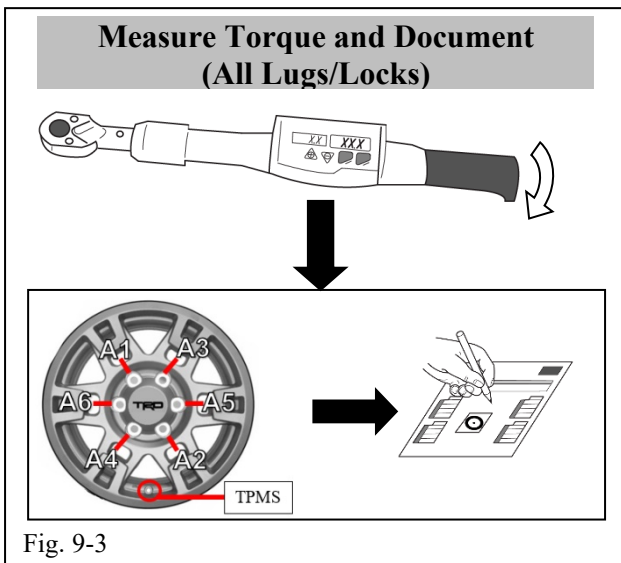

Fig. 9-3
- (e) With the vehicle still on the lift, use a digital torque wrench to measure the torque of each lug nut/lock. Record the values on the Torque Audit Sheet (Fig. 9-3) (PPO installation only, does not apply to DIO installation).
- (f) Use a digital torque wrench to apply the required torque of 36 in-lbf to the TPMS nut & record the values in the assembly torque section of the Torque Audit Sheet (Fig. 9-3). (PPO installation only, does not apply to DIO installation).